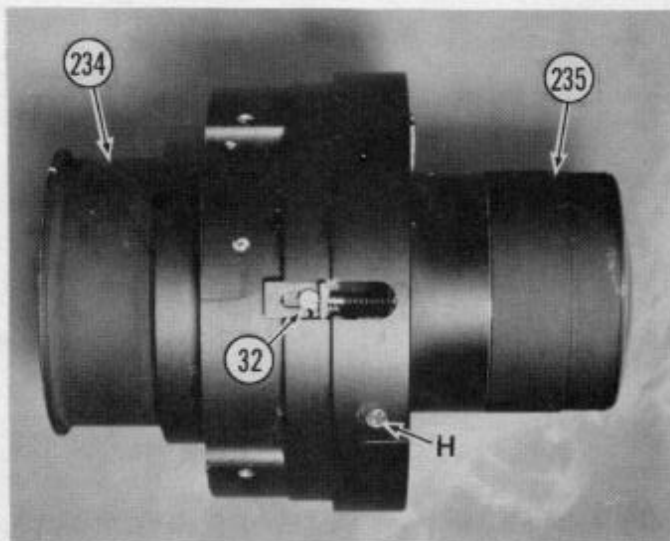
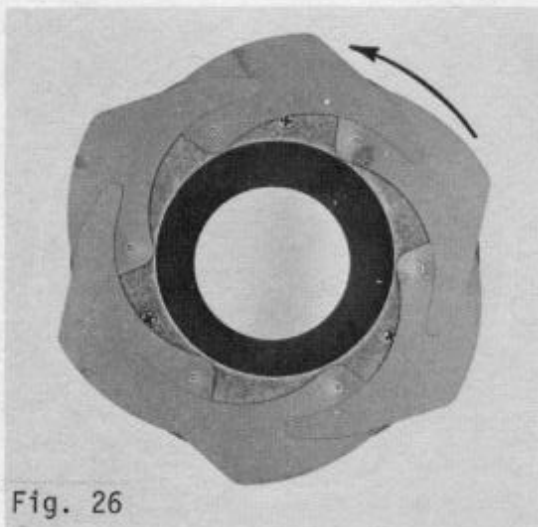

Fig. 24
Fig. 26
Note: Most repairs to Prime Lens Assembly involve no more than cleaning sticky diaphragm blades or blade operating mechanisms. This may be accomplished by simply unscrewing and removing the 4th and 5th Lens Groups (234 and 235) and then cleaning barrel assembly as a unit. An ultrasonic cleaner is recommended. (Fig. 24)
- 4.1.5 Rest the assembly on bench with Diaphragm Housing down. Loosen two screws (32) (Fig. 24) two turns each. Lift Prime Lens Barrel upwards and off. This will expose Diaphragm Blades (ref. no. 36 or 37, depending on mount type). (Fig. 26)
- 4.2.1 Install Diaphragm Blades in a counterclockwise sequence. (Fig. 26)